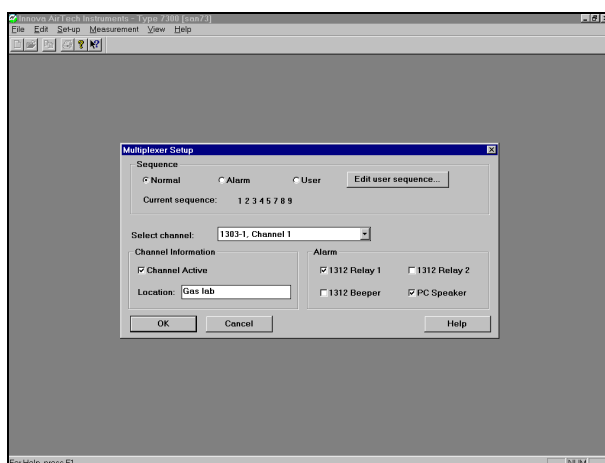

Fig.3.3 The Multiplexer Set-up dialogue
- Pull down the **Set-up** menu and click on **Multiplexer**. The Multiplexer dialogue is displayed, Fig.3.3.